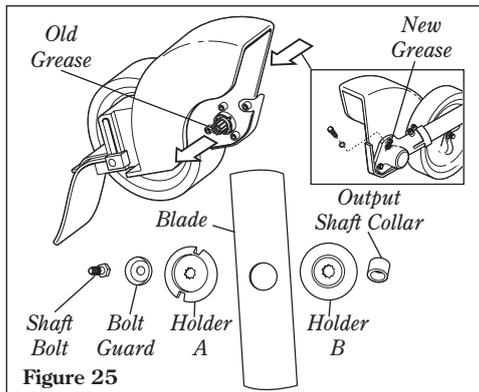

Figure 25
- Remove the cutting attachment, holder and the gear shaft collar. Remove the filler plug from the side of the gearcase and press new grease into the gearcase until the old grease has been pushed out. Use only lithium-base grease such as Shindaiwa Gearcase Lubricant or equivalent. See Figure 25.